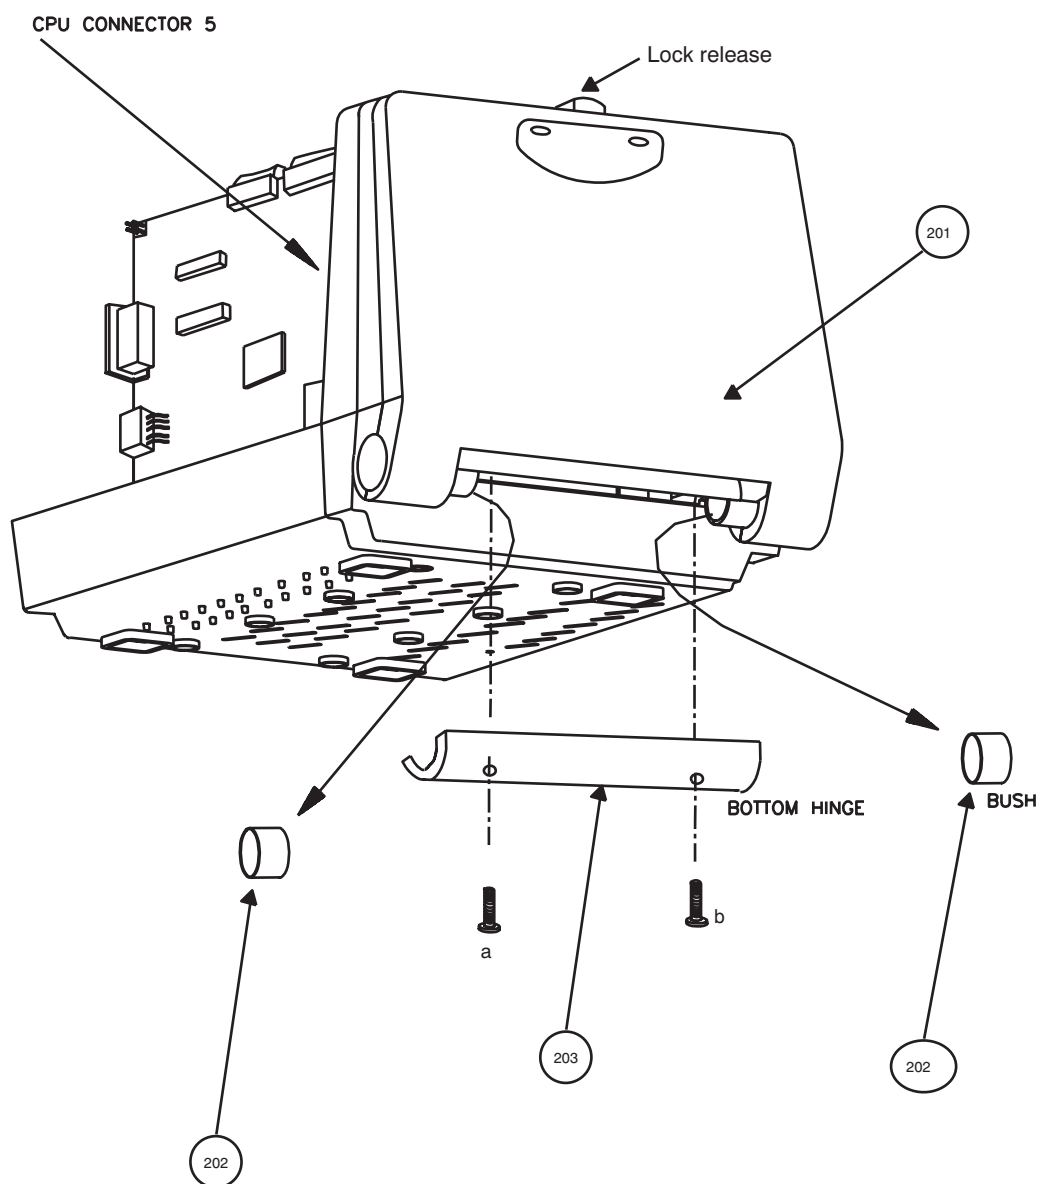

Figure 8-2 Detaching the Keyboard
Follow the steps below and refer Figure 8-2. For FRU Details refer 9-1-3
- 4.) Remove the TGC connector from the FEB (for LOGIQ™ 100 PRO)/TRCTL (For V5.06a & Below) not shown in the Figure 8-2.
- 5.) Place a rubber mat below the unit and tilt the unit upward. Remove two screws (a,b) from the bottom hinge of the keyboard and remove the bottom hinge cover refer Figure 8-2.
- 7.) Remove the 2 ring bushes refer Figure 8-2.